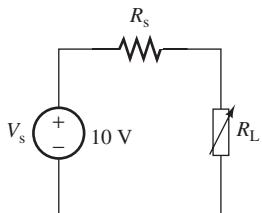

FIGURE P3.77 Circuit for Problem 3.77.
- 3.77** (H) For the circuit shown in Figure P3.77, draw a graph of the maximum output power of R_L when R_s changes from 1Ω to 100Ω . R_L is adjustable.